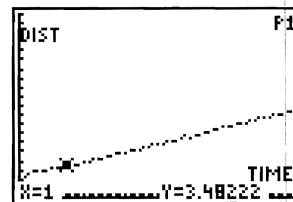

Figure 2:
- 6 A graph of distance (y-axis) versus time (x-axis), shown in Figure 2, is plotted on the calculator as the data is collected. When the walker has a reasonably good graph, move to the analysis section of the lab. Press **TRACE** to move along the plotted points to get the data (ordered pairs) needed for analysis.
- 1 Use **TRACE** on the calculator to find the end points of the line segments that were walked. From these points, find the total distance and elapsed time that was walked (example shown in Figure 2). Find the average velocity for the total trip. Find the velocity for any segment of the walk. For example, how fast was the student walking for the first second? Note that if the plot is actually a line, then the walker moved at a constant rate, and the slope of the line gives this rate.